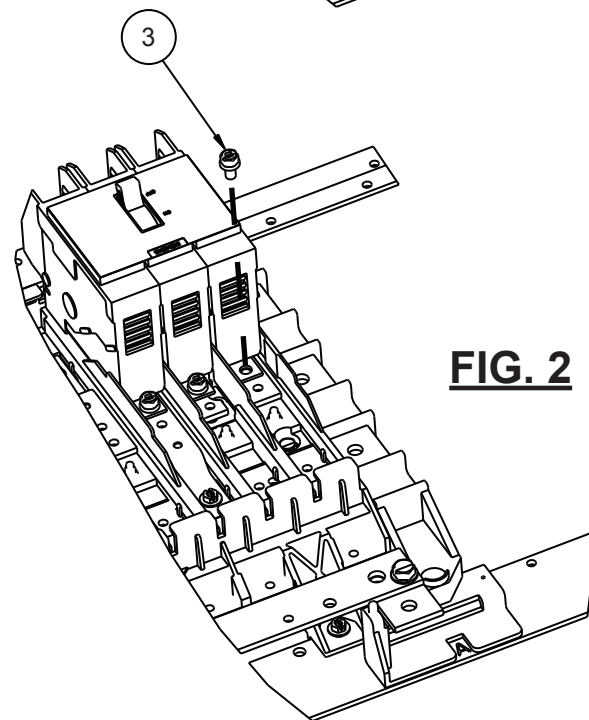

FIG. 2
6. Once all necessary connectors are installed, install proper breaker (for system; not provided), using #10-32 SEMS assembly screws (item 3) as shown in Fig. 2.